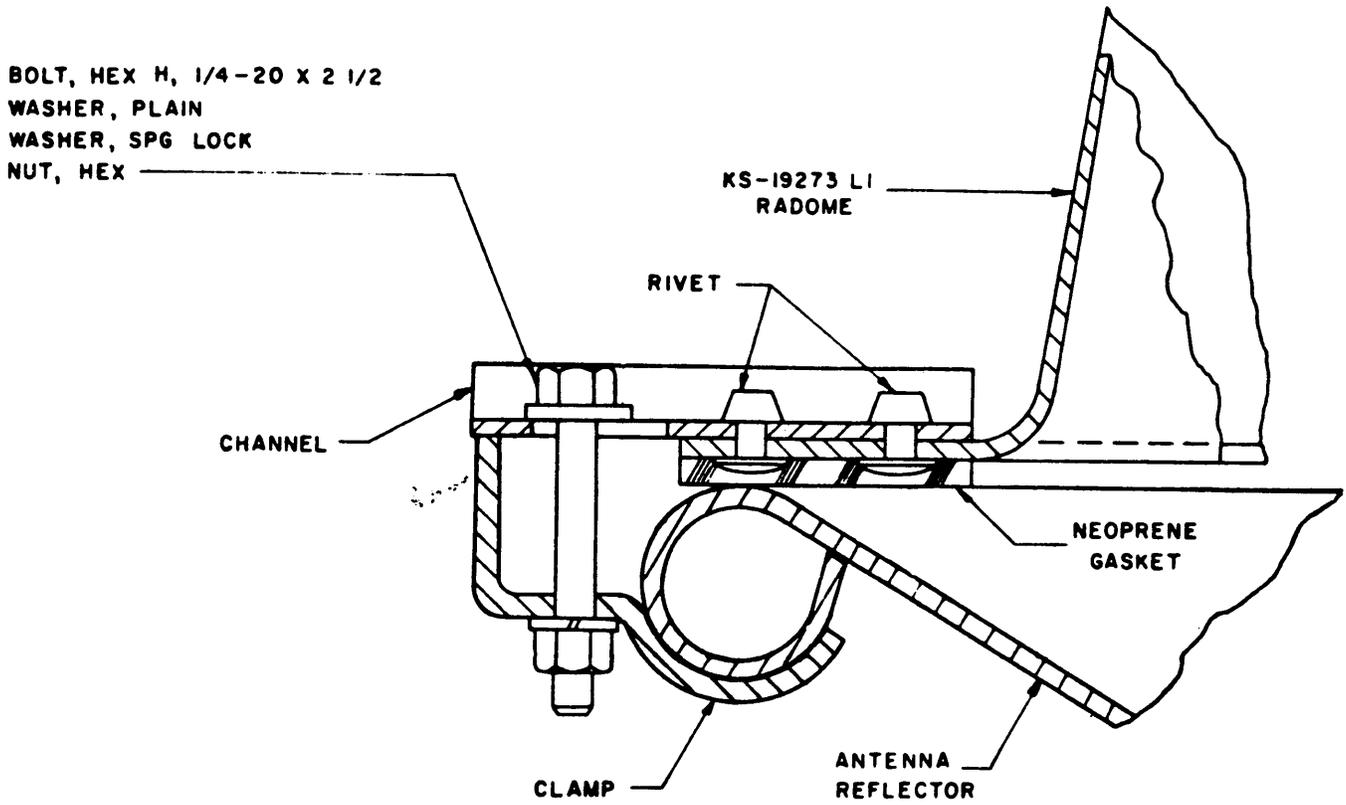

Fig. 2 - Clamp Detail for Mounting the KS-19273 L1, Radome
4.04 Position the clamps over the rolled edge on the rim of the reflector as shown in Fig. 2. Center the radome on the reflector and secure one clamp in each quadrant.